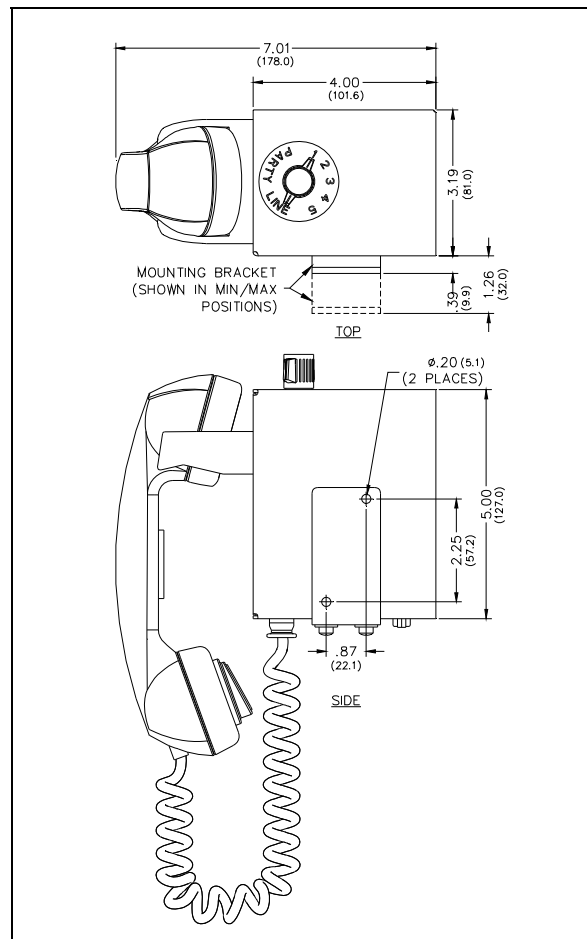
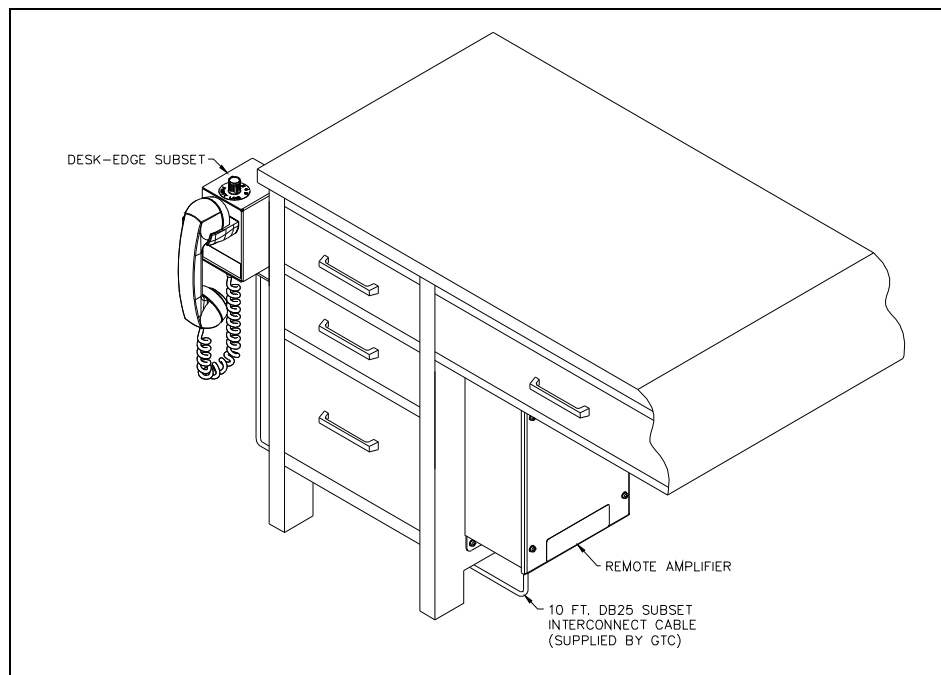

Figure 2. ICS/SP2 Multi-Party Desk-Edge Subset Outline
Figure 3. Typical Desk-Edge Installation
1. Secure the mounting bracket to a vertical surface using two #8 screws in the 0.20-inch (5.1mm) holes on the side of the mounting bracket (see Figure 2 and Figure 3 for dimensions and a typical installation).